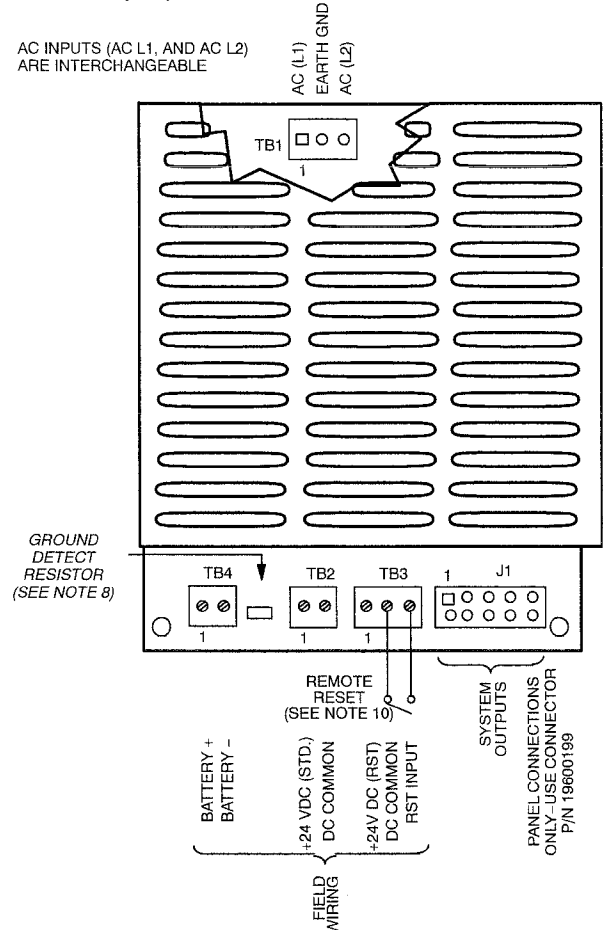

Figure 1 RPS-424 Power Supply
4. Connect AC wiring to TB1. See Figure 1.